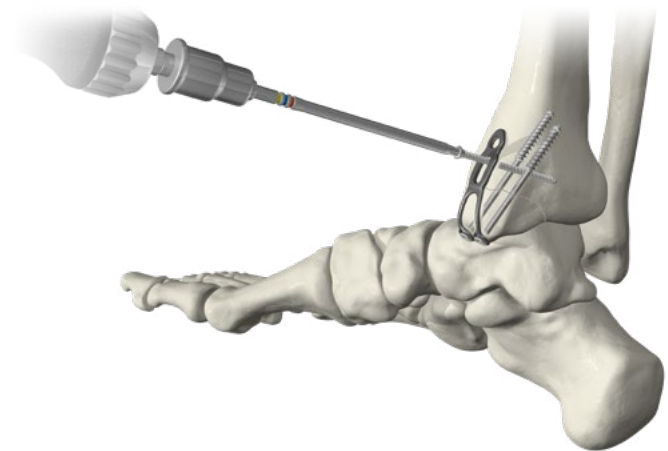

FIGURE 37
11. Select the desired screw length and type. Insert screw into the pilot hole and drive into position by rotating clockwise with the driver (FIGURE 37).